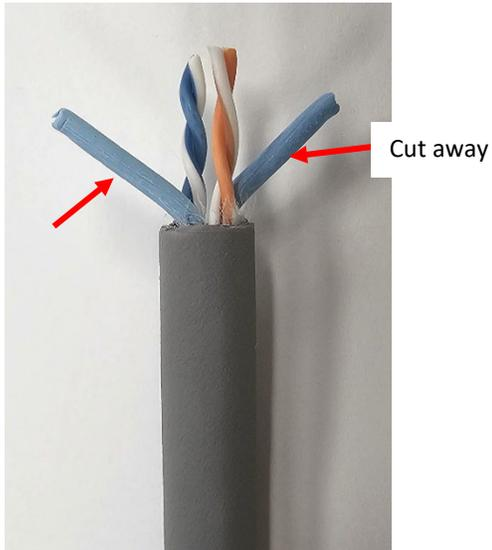

Figure 5
- [4] Cut away two blue filler tubes (Figure 5).